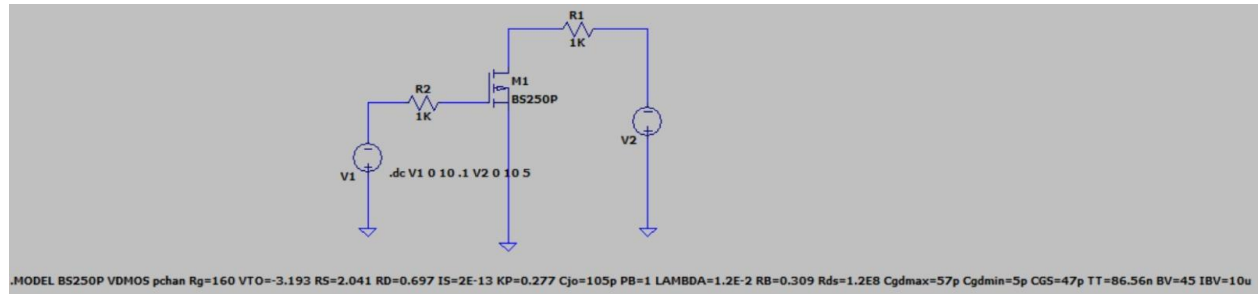

Figure 9: LTspice schematic of PMOS transfer characteristics circuit
12. Connect the circuit as shown in Figure 9.